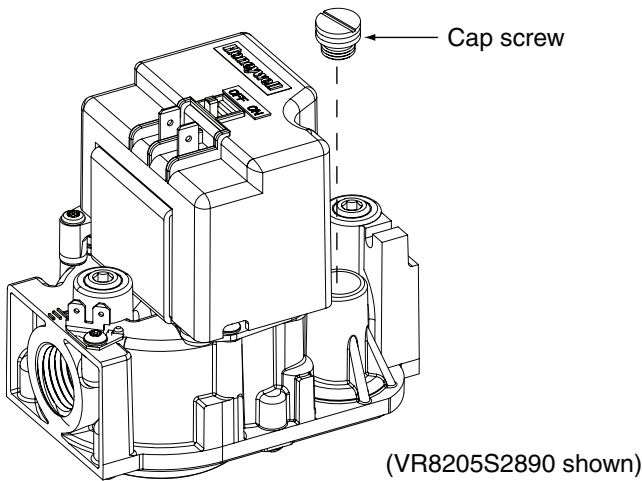
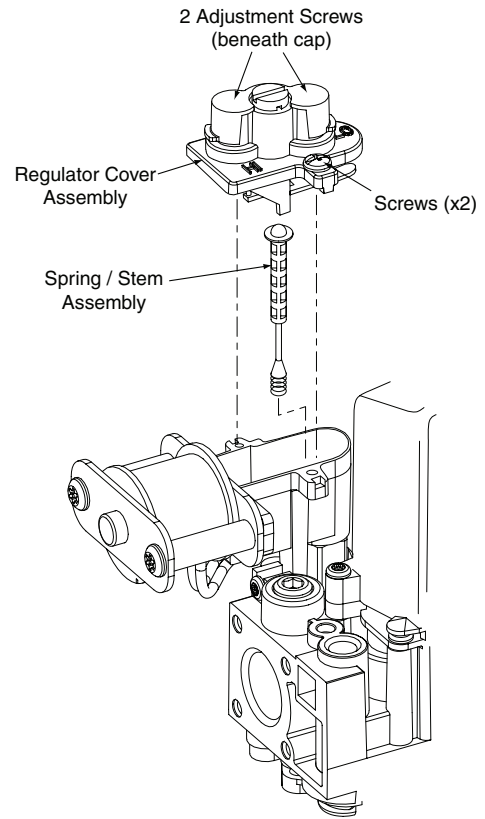

Figure 2. Cap Screw Removal
Figure 4. Spring / Stem Assembly Removal
1. Remove the cap screw from the gas valve as shown in Figure 2.
1. Remove two screws securing the pressure regulator cover assembly to the gas valve. Do not discard the screws. See Figure 4.
1. **Single stage gas valve:** Remove the cap screw from the top of the gas valve regulator. See Figure 2 (page 4) for VR8205S2890 or VR8215S1289 models.
2-stage gas valve: For VR8205Q2381 models, remove the plastic cap covering the adjustment screws (Figure 4 page 4).
2. Using a screwdriver or Allen wrench (where appropriate), slowly turn the adjustment screw till the appropriate manifold pressure listed in Table 2 is achieved. See Figure 2 for VR8205S2890 or VR8215S1289 models. See Figure 4 for VR8205Q2381 models or Figure 9 for VR9205Q11127 models.